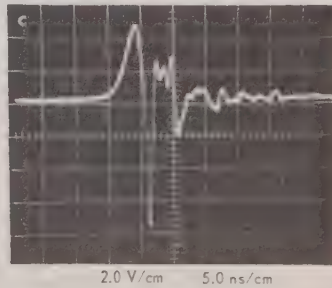
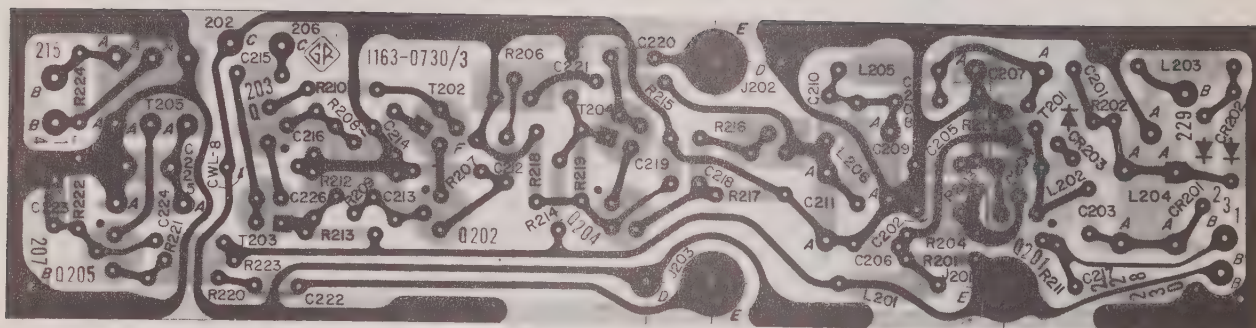

Figure DD-14. Sampling oscilloscope waveforms typical of servo-circuit blocking-oscillator performance.
Figure DD-16. Etched-circuit board assembly (top) for RDI-4 (P/N 1163-2742).
The sampling oscilloscope is needed for the remainder of the pulse circuits. Figure DD-14 (A) shows the output of the blocking oscillator at pin 1, T101, (use Figure DD-16 to find the test point). Figure DD-14 (B) shows the waveform at the anode of CR102. CR102, a plug-in unit, is selected to give the stored-charge, snap-off characteristics necessary to speed up the blocking-oscillator pulse. The waveform of the final pulse is seen at TP103, Figure DD-14 (C).
Figures DD-16 through DD-20 show the physical layout of the parts on the various etched-circuit boards, to speed positive identification. The reference designators for the parts shown on the boards are the same as those used in the over-all schematic diagram, Figure DD-21, and in the parts list at the end of this section.